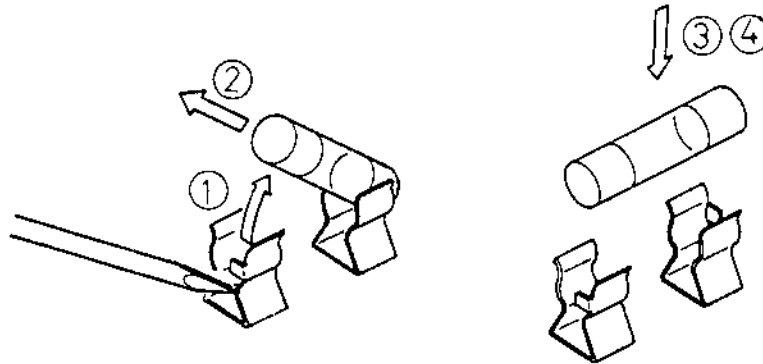

Fig. 15
- 2) Remove the blown fuse and replace it by good one. (See Fig. 15 below.)